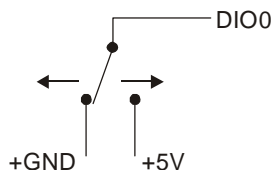

Figure 3-10. Schematic showing switch detection by digital channel DIO0
When you configure the digital bits for input, you can use the UMDAS TH digital I/O terminals to detect the state of any TTL-level input. Refer to the schematic shown in Figure 3-10. If you set the switch to the +5V input, DIO0 reads *TRUE* (1). If you move the switch to GND, DIO0 reads *FALSE* (0).